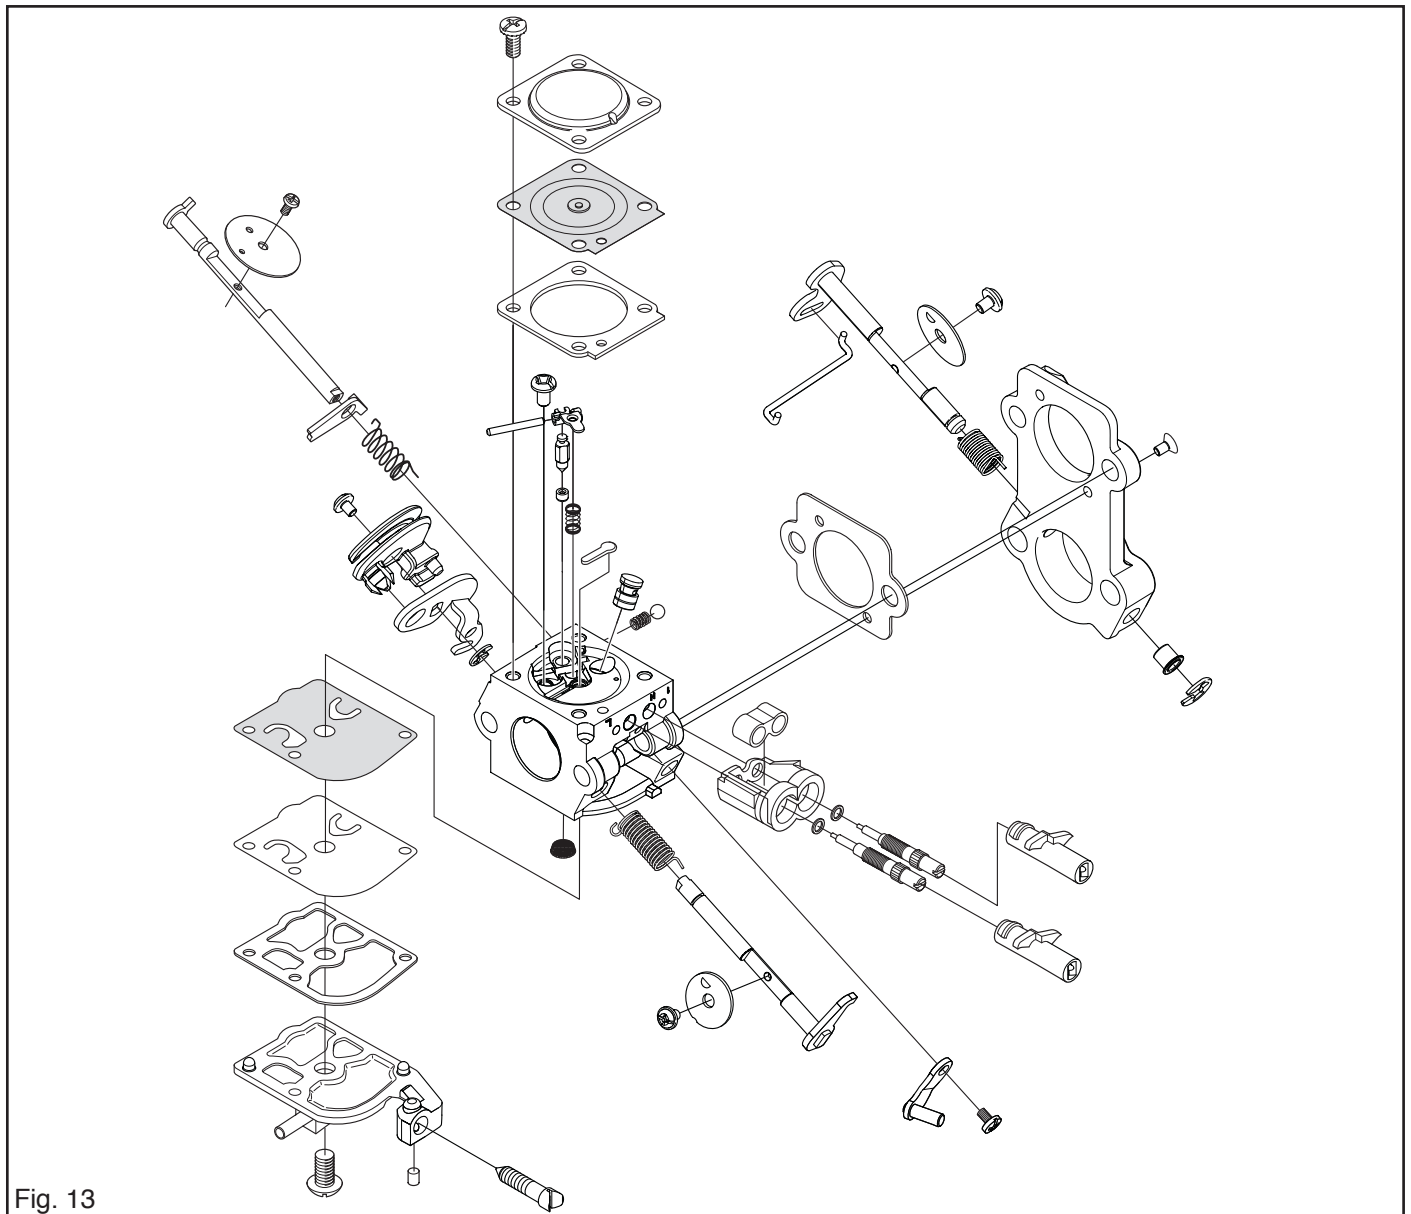

Fig. 13
12. Remove caps with the high and low speed screws. NOTE! Both needles are fitted with O-rings. See fig. 13.